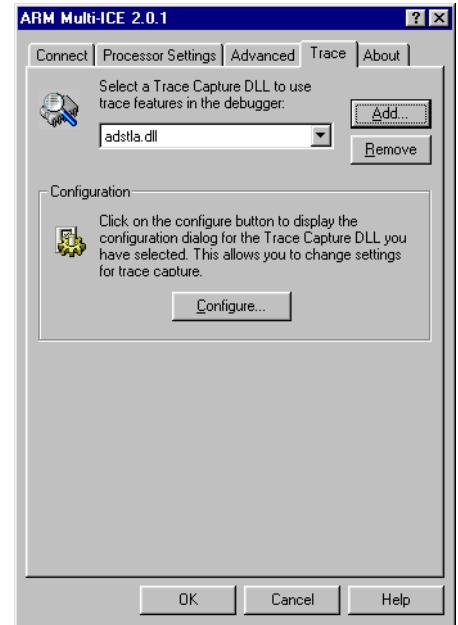

Figure B-22 Multi-ICE configuration dialog box showing the Trace tab
8. Click on the **Trace** tab to make it visible (Figure B-22 on page B-31).